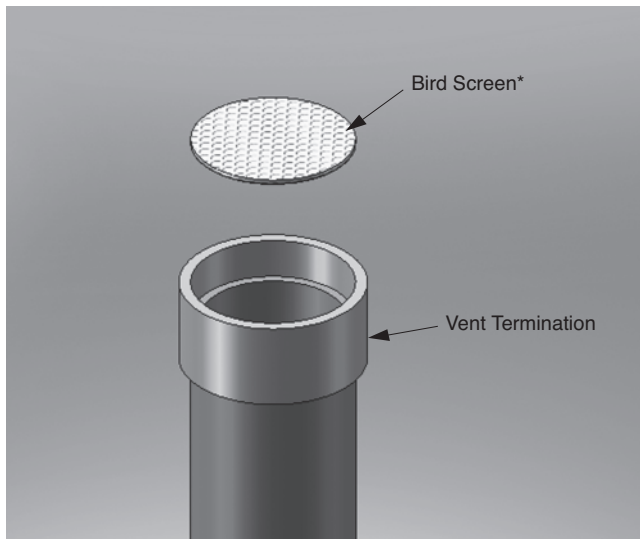

Fig. 4: Vertical Vent Bird Screen Installation
1. The vent and combustion air terminations must include a factory supplied "bird screen" installed as shown in Figs. 4, 5 & 6 on page 11.